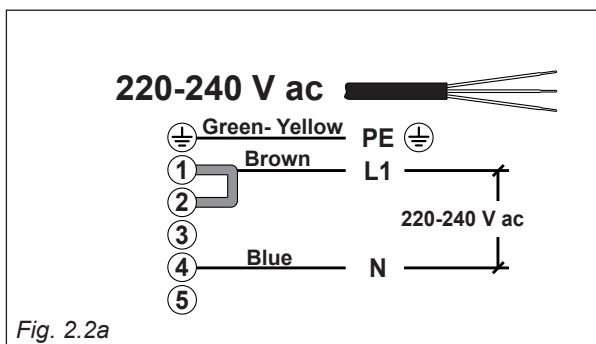

Fig. 2.2a
- Connect the phase, neutral and earth wires to terminal board “E” according to the diagram in fig. 2.2a or 2.2b.